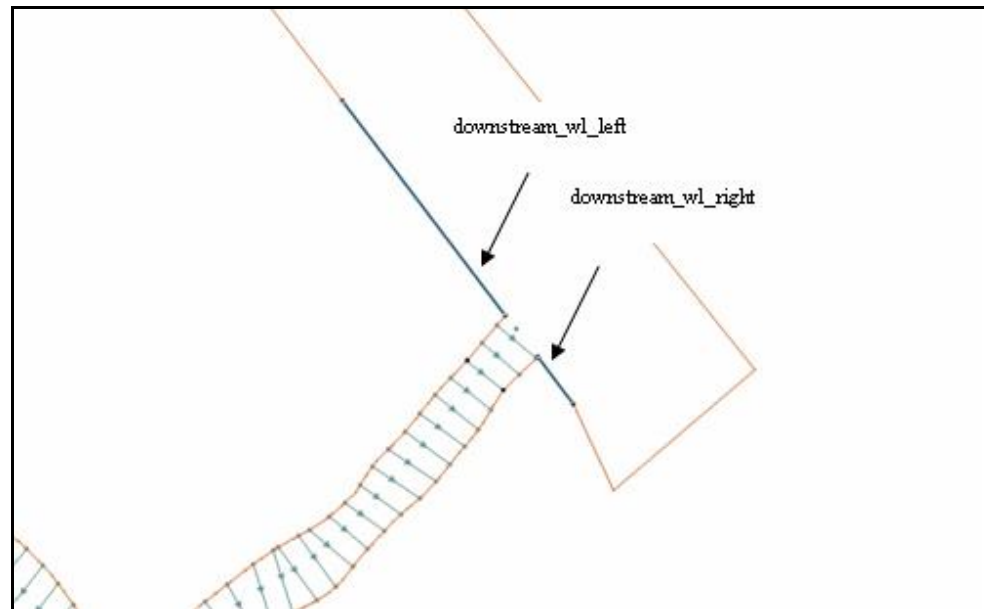

Figure 17 Location of downstream boundary condition arcs
2. Using the **Select Feature Arc**  tool and the *Shift* key, select the two arcs along the downstream side of the 2D domain as shown in Figure 17.
4. Set *Type* to "Wse vs Time (HT)".
Rename the downstream arcs to something more intuitive (Figure 17):